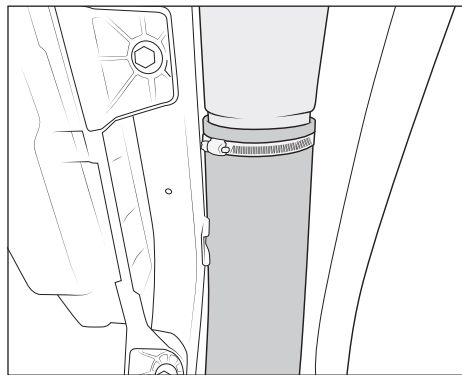

Figure 14 : Shown from below
- Reinstall the fender and main body back onto the truck for the final time, being sure to insert the main body outlet into the inlet of the plastic component installed in the previous step (fig. 14).